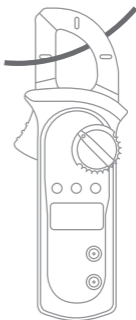

Figure 8
F. AC Current Measurement (Figure 8)